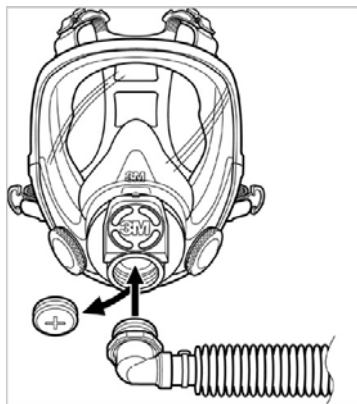

Fig. 6
1. Remove 3M™ Full Face Plug 7890 and screw breathing tube into center opening. (Fig. 6)